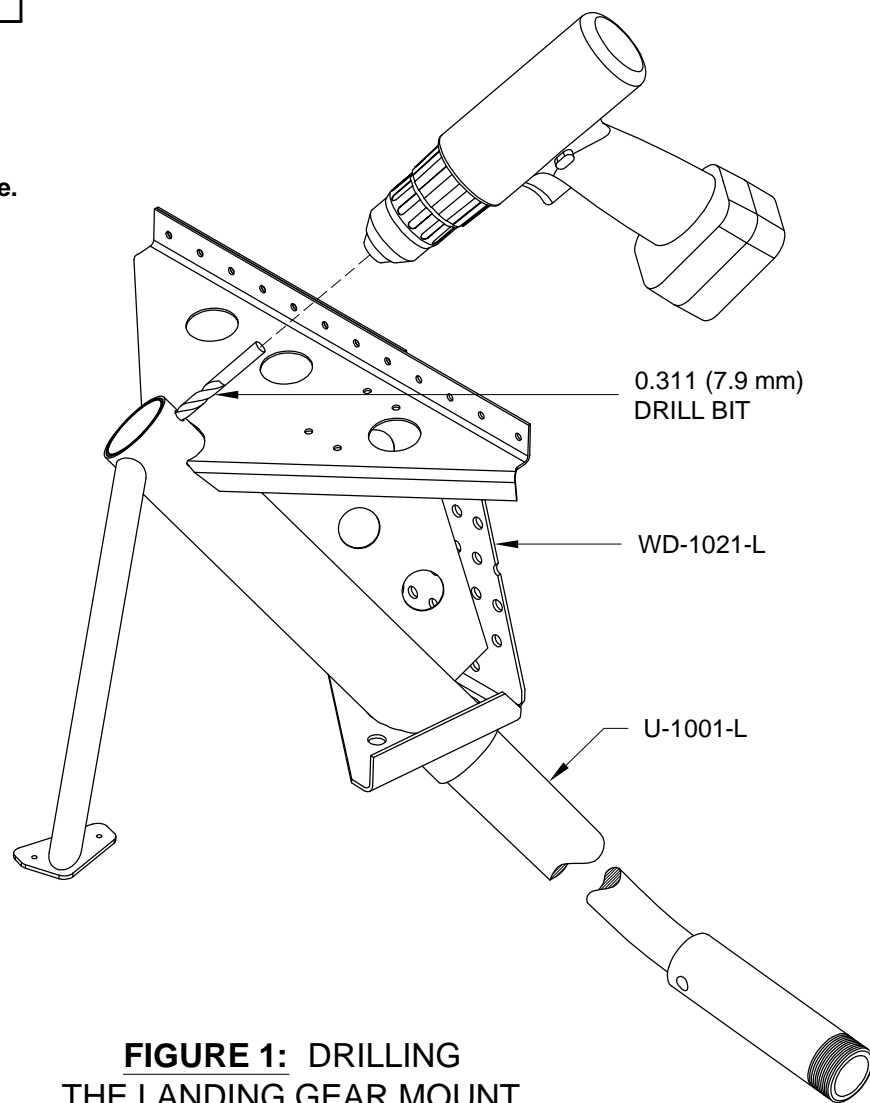

FIGURE 1: DRILLING THE LANDING GEAR MOUNT
Step 1: Slide the U-1001-L Main Gear Leg into the WD-1021-L Left Landing Gear Mount as shown in Figure 1.
A hole is drilled through the upper end of the landing gear mount socket. The hole on the top side of the socket is drilled to final size while the corresponding hole in the bottom side is drilled undersize. Align the hole in the main gear leg with the hole in the top side of the socket. As shown in Figure 1, insert a Ø.311 (7.9mm) drill bit through the assembly until it "bottoms out" on edges of the smaller hole. (The side of the fuselage will prevent inserting the drill bit if it is already in a drill motor.) Now attach a drill motor and final-drill the smaller hole.